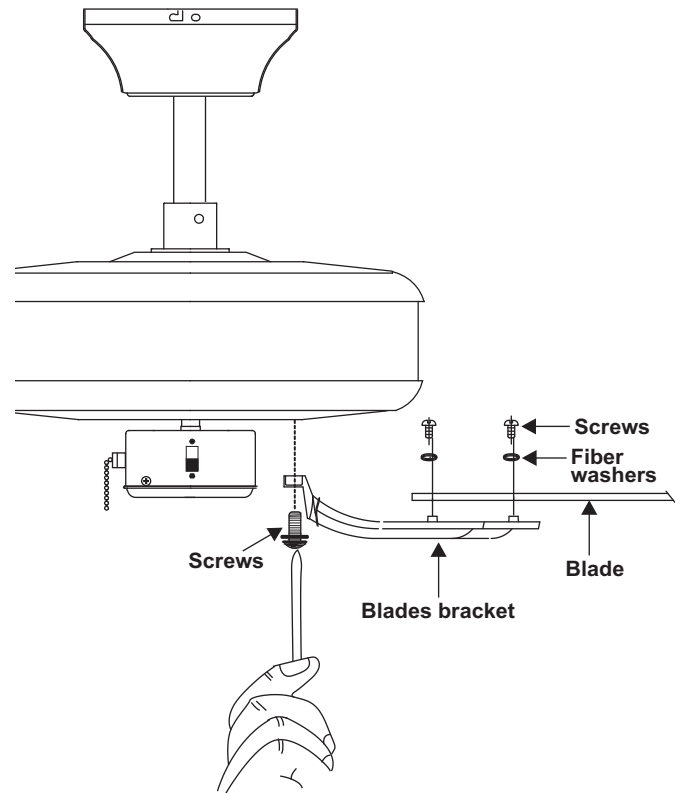

Figure 15
Step 1 Attach the blade to the blade bracket using the screws and fiber washers as shown in Figure 15. Start screw into bracket. Repeat for the two remaining screws.
Step 3 Fasten blade assembly to motor using the screws supplied. (Fig. 15)